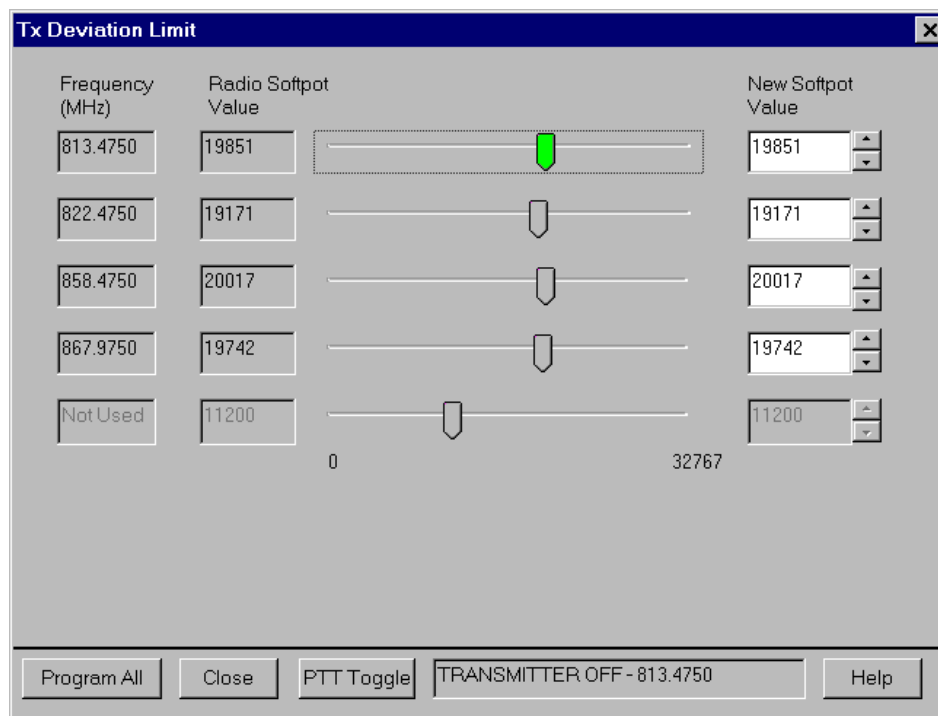

Figure 6-17. Transmit Deviation Limit Alignment Screen
3. Select the **TX Deviation Limit** alignment screen. The screen will indicate the transmit frequencies to be used. See Figure 6-17.